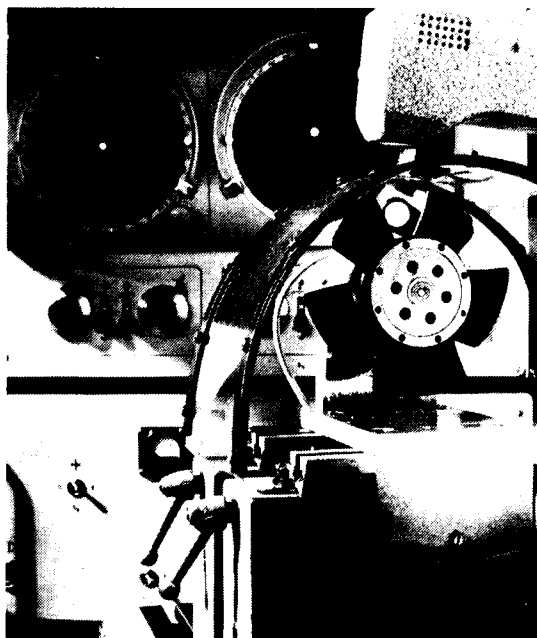

Figure 1
- Rotors that are dynamically balanced to a maximum shift of the center of gravity of .0001-inch in each end plane as shown in Figure 1.